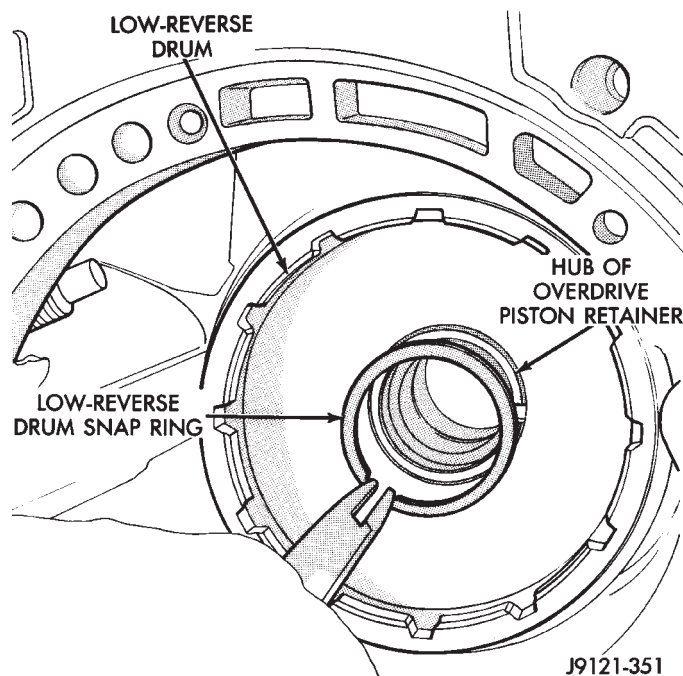

Fig. 164 Installing Low-Reverse Drum Retaining Snap Ring
(15) Install snap ring that secures low-reverse drum to hub of piston retainer (Fig. 164).